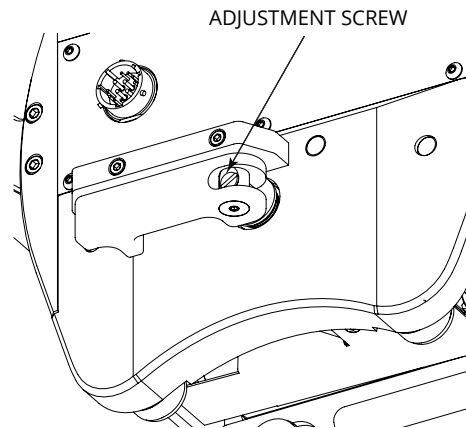

FIGURE 14 - Adjustment Screw
4. Once the set screws have been loosened, adjust the tension using a flat-head screwdriver to turn the adjustment screw – see **FIGURE 14 - Adjustment Screw**. Turn the adjustment screw clockwise to increase the tension. Turning it counterclockwise will decrease the tension.